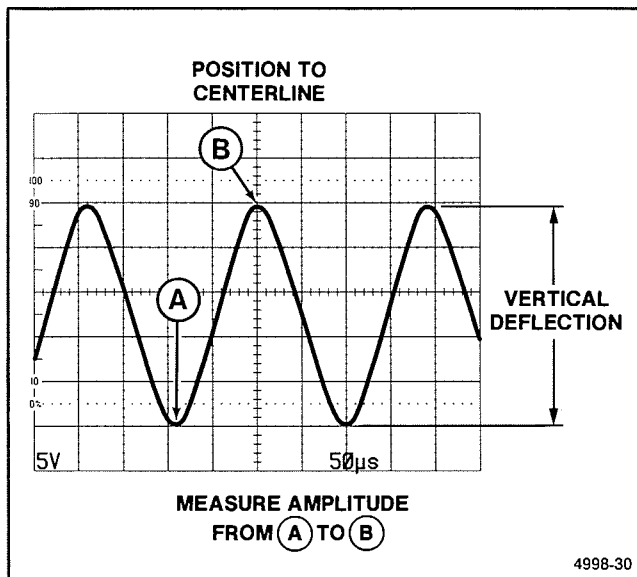

Figure 6-17. Peak-to-peak waveform voltage.
6. Vertically position the displayed waveform so that the negative peak of the waveform coincides with one of the horizontal graticule lines (see Figure 6-17, Point A).
7. Horizontally position the display so that one of the positive peaks coincides with the center vertical graticule line (see Figure 6-17, Point B).
8. Measure the vertical deflection from peak to peak (see Figure 6-17, Point A to Point B).
EXAMPLE: The measured peak-to-peak vertical deflection is 5 divisions (see Figure 6-17) with a VOLTS/DIV switch setting of 0.5 V, using a 10X probe.